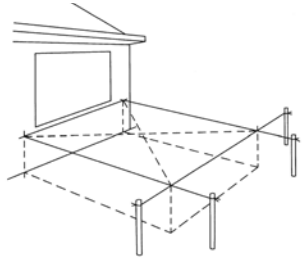

Fig 1 Position the deck, layout with string line and check for square by measuring the diagonals.
- Mark out your deck and the desired floor height using string lines (Fig 1). Check for square by measuring the diagonals (Fig 1) - They must be equal in length and the sides must also be equal and parallel. You don't want to discover your deck is not square further down the track!